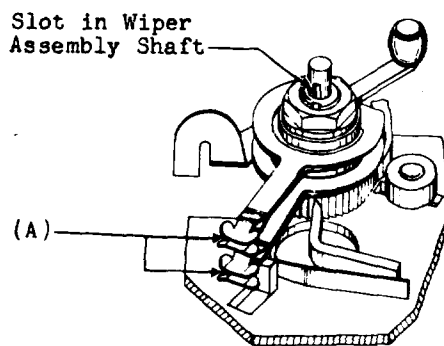

Fig. 5—Wiper Assembly
2.06 Wiper Spring Tip Separation: Fig. 5(A)—There shall be a separation between the tips of each pair of wiper springs with the wiper springs off the bank of